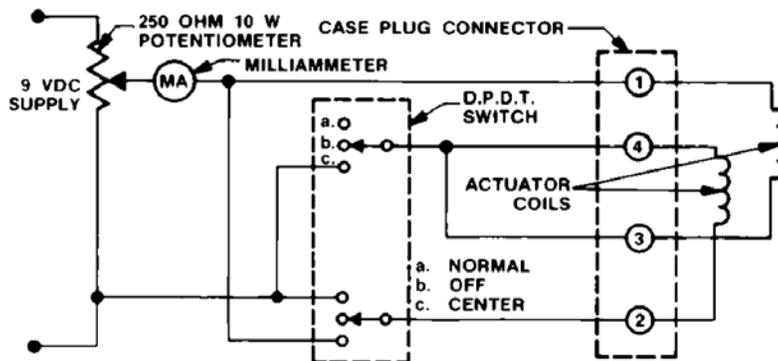

Figure 3-1. EGB Electrical Test Circuit
1. Connect the test circuit to the terminal block (the Jones plug inside the governor case) on the actuator as shown in Figure 3-1. Set the test switch to OFF. Remove the fuel linkage to engine or test stand.